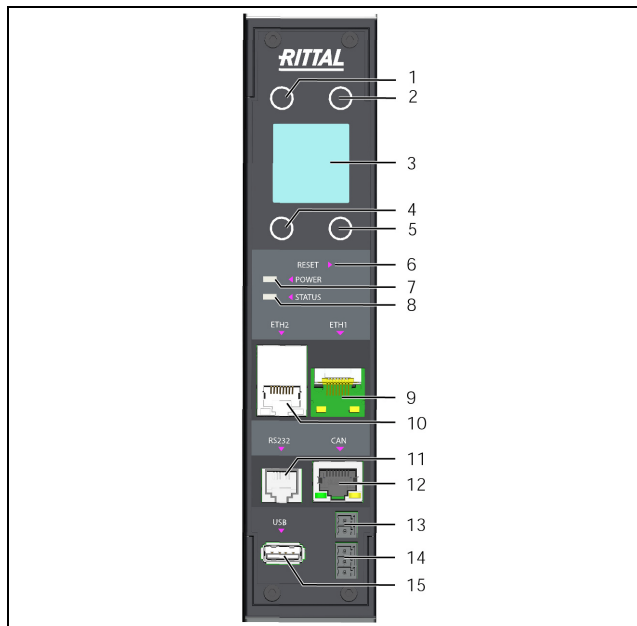

Fig. 5: Control and display elements and connections of the CMC III PU 19" Edition
The control and display elements are shown in fig. 5.
A multi-LED for status display is integrated into the front of the CMC III PU 19" Edition (fig. 5, item 8). Further LEDs are also located on the CAN bus connection (fig. 5, item 12) and on the Ethernet interfaces (fig. 5, item 9 and item 10).
The individual menu points are selected using the "Down" (fig. 5, item 5) and "Up" arrows (fig. 5, item 2). You can switch between the individual menu levels with the "Esc" (fig. 5, item 1) and "Return" keys (fig. 5, item 4).
- Keep pressing the "Up" arrow (fig. 5, item 2) or the "Down" arrow (fig. 5, item 5) until the required digit is displayed in the first position of the PIN.
- Press the "Return" key (fig. 5, item 4) to move to the second position of the PIN.
- Finally, press the "Return" key (fig. 5, item 4). The previously selected sub-menu will appear.